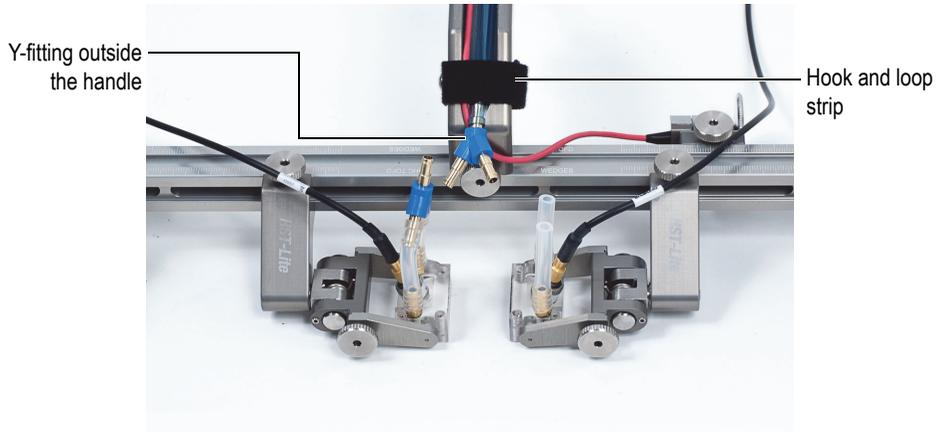

Figure 1-13 Securing the irrigation tube
8. Install the irrigation tube in the scanner handle, and then temporarily secure the irrigation tube using the hook and loop strips (see Figure 1-13 on page 18).
Make sure the Y-fitting of the irrigation tube is outside the handle (see Figure 1-13 on page 18).